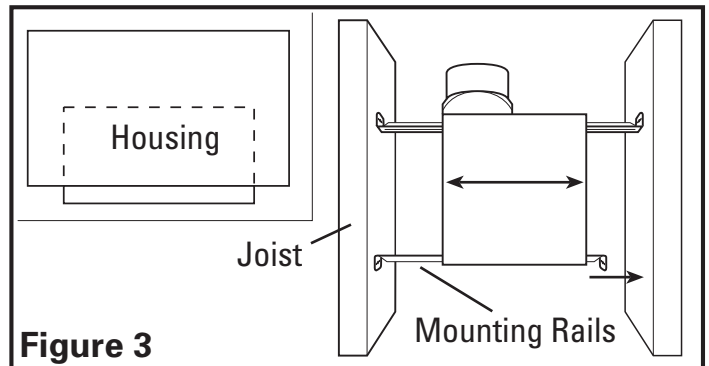

Figure 3
- Install the mounting rails on the housing and position the housing next to the joist. Line up housing so that it will be flush with the finished ceiling. Secure the ends of the rails with screws or nails (not included) to the joists and slide the housing into the final position (Figure 3).
- Set housing in position between the joist and trace an outline onto the ceiling material (Figure 4). Set housing aside and cut opening, being careful not to cut or damage any electrical or other hidden utilities. Install the rails on the housing and position the housing in the previously cut hole so that it is flush with the finished ceiling. Secure the ends of the rails to the joists (Figure 3).